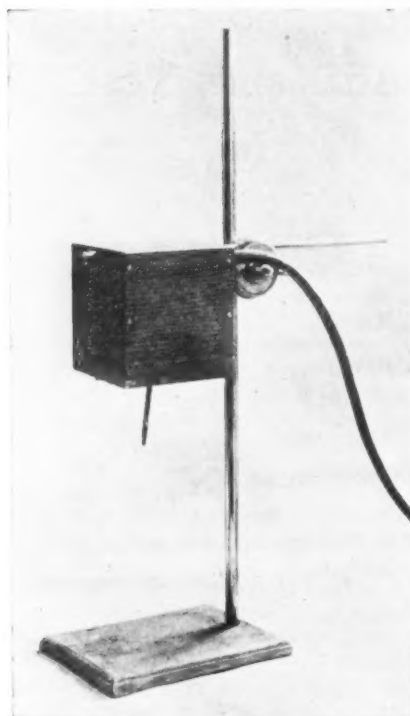

Fig. 2. Laboratory model of B.N.F. adhesion tester.
\* See Fig. 2.
In order to allow the blows of the hammer to be distributed over a small area and thus to encourage the production of a blister, the hardened steel hammer (3) with a spherical head, 0.06" in diameter, was mounted in a piece of spring belting 3/16" diameter, 2 1/2" long, which was soldered to the reed, thus giving a flexible hammer. When completely assembled the apparatus was suspended by the hood from a steel rod which was adjustably clamped to a retort stand (Fig. 2). The test was applied by holding the component under the hammer which was loosely guided by the fingers. Blisters were usually formed in weakly adherent coatings within ten seconds; if the coating did not blister within one minute, the test was discontinued.